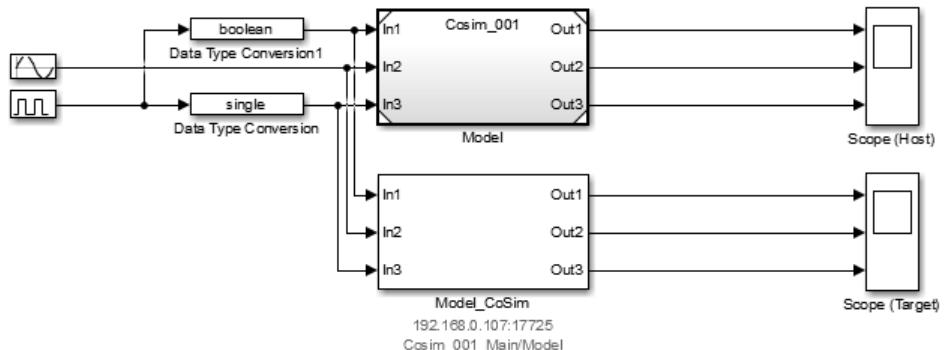

Figure 14-4 Example: connecting the inputs and outputs of the “Model\_CoSim” client block
- Right-click on the client block (in Figure 14-4: “Model\\_CoSim”).
- Connect the client block inputs to the same simulation signals as the target model inputs (see Figure 14-4).